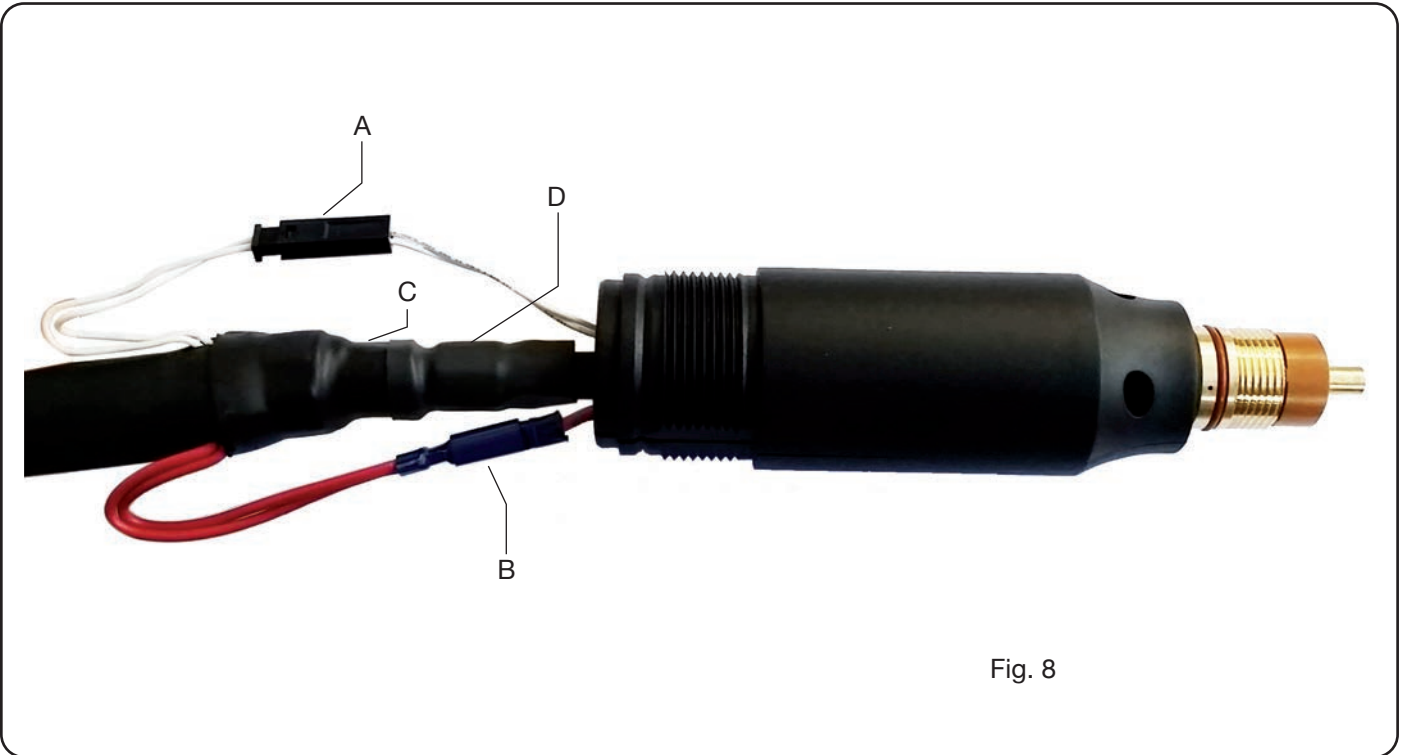

Fig. 8
- Unscrew the retention dowels **G1** and **G2**, then handle **M** and pull it back until all cables are shown (see Fig. 8);
- Screw in fittings **D** and **E** according to the arrow direction - Fig.8.